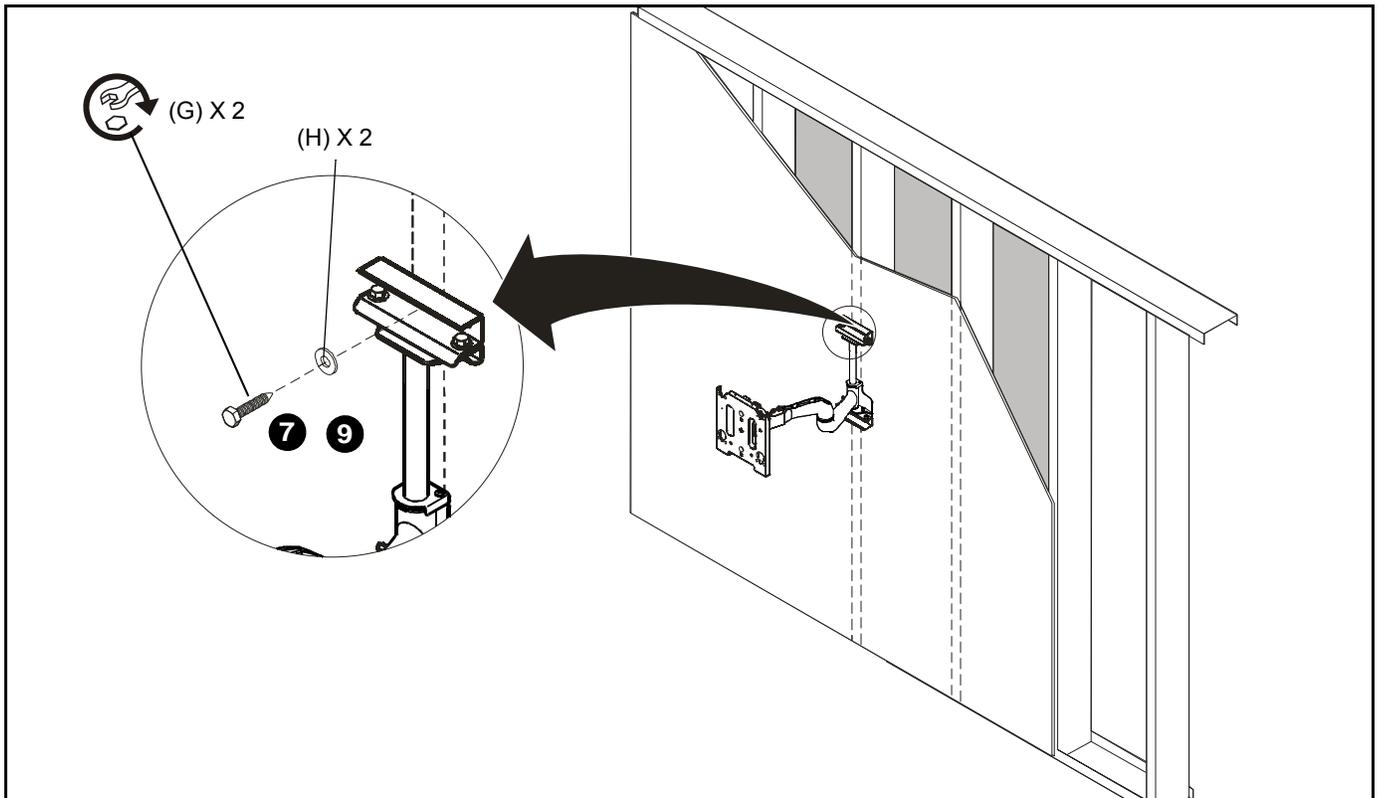

Figure 3
6. Install one 5/16" x 2-1/2" lag bolt (G) and one 5/16" flat washer (H), through mounting holes in upper wall channel and into pilot hole. DO NOT tighten at this time. (See Figure 3)
8. Install one 5/16" x 2-1/2" lag bolt (G) and one 5/16" flat washer (H), through mounting holes in lower wall channel
- and into pilot hole. (See Figure 3)